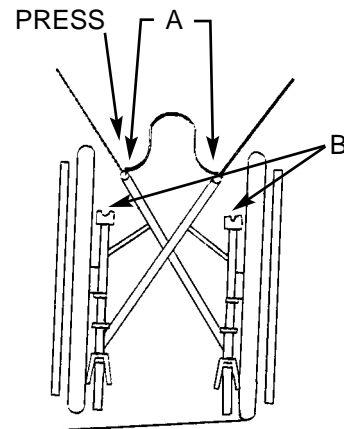

Figure 3
- 3 Stand at one side of the folded Meteor. Tilt it slightly to balance on one rear wheel and simultaneously press down on the opposite side of the seat and push until the **wheelchair is fully open**. Check that the **seat tubes (A)** have located into their **cradles (B)** (see FIG 3).